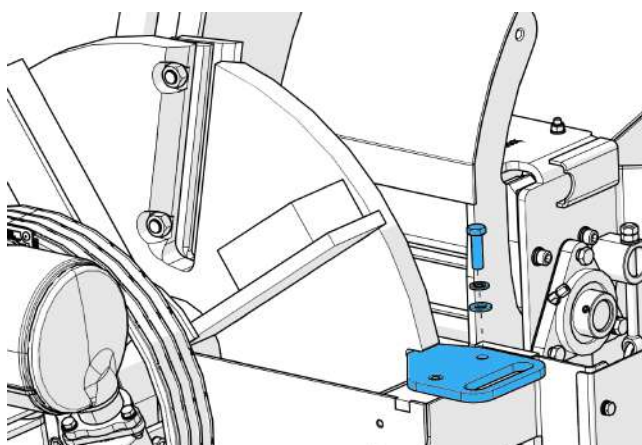

Figure 63 - Installing the flywheel locking tool
6. Turn the flywheel until it is in the locking position (Figure 63).
7. Insert the flywheel locking tool into the groove on the flywheel. The groove becomes visible once the wheel is in the correct position (Figure 63).